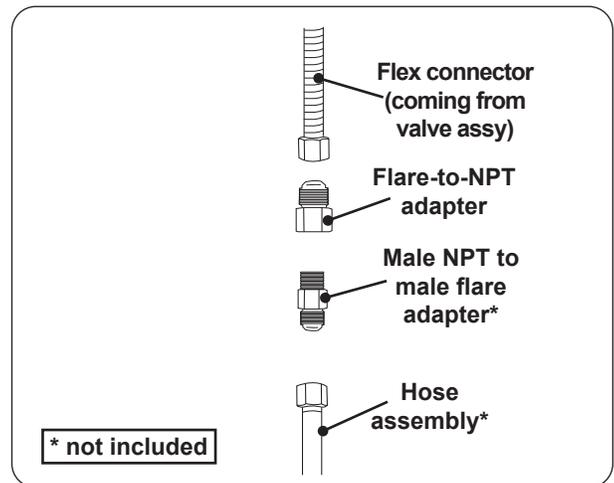

Fig. 37-1 Connecting flex to hose assy
1. Connect the L.P. regulator hose assembly (not included) to the flex connector that is coming off of the valve assembly (see Fig. 37-1).